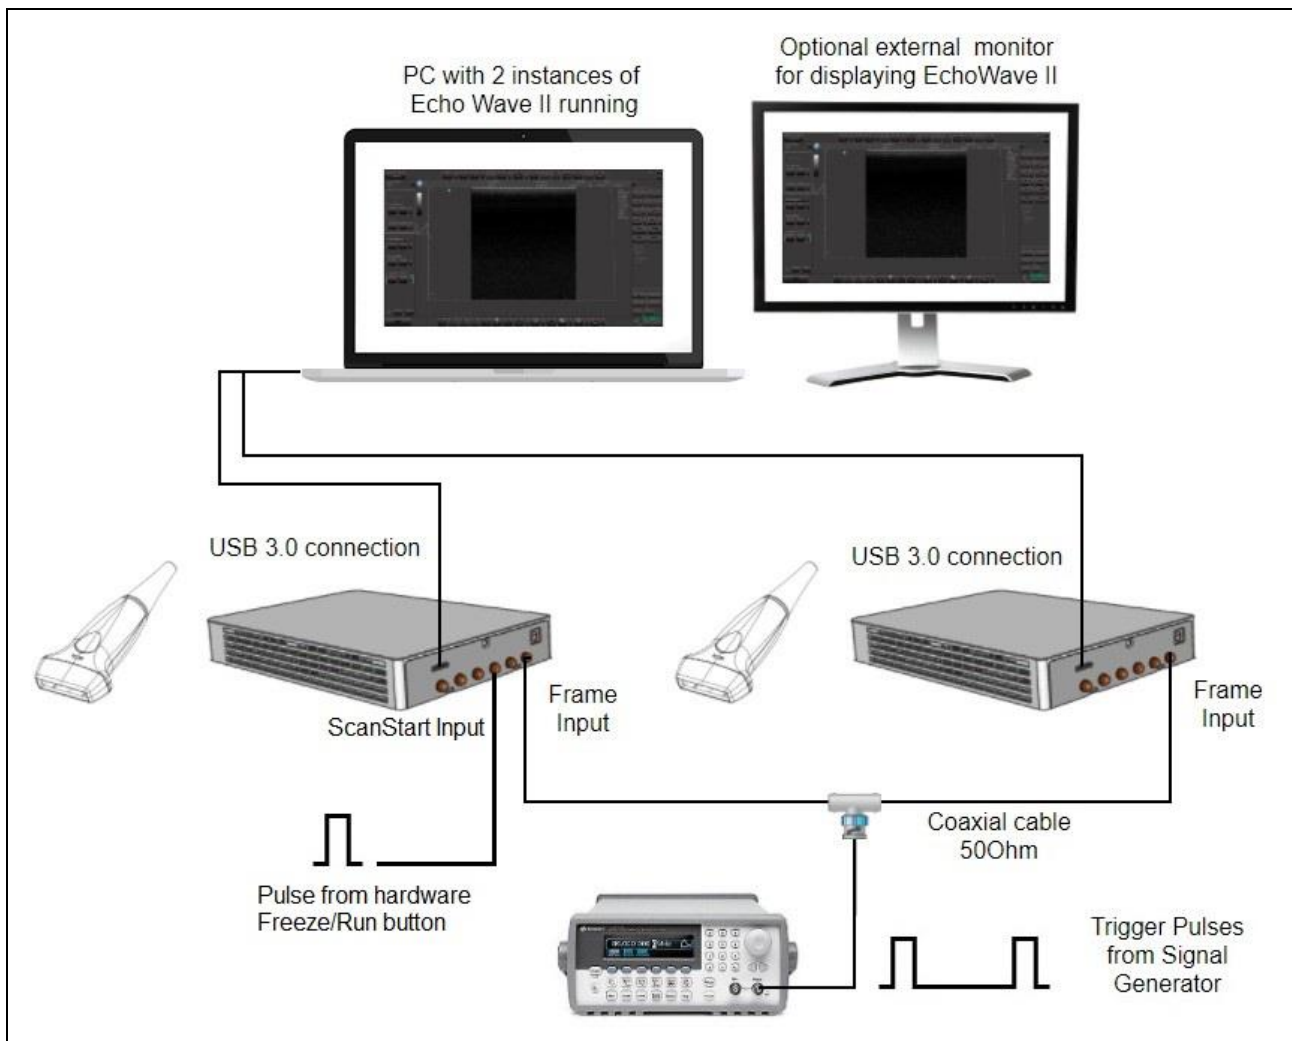

Figure 2 Twin ArtUs with a PC and optional external monitor (Frame Input)
3. Connect the hardware Freeze/Run button to the ScanStart Input of one of ArtUs devices as shown in Figure 2